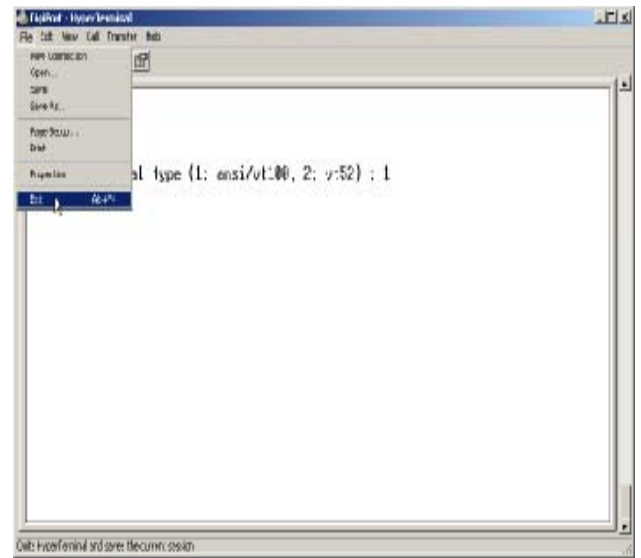

Figure 2-18
37. Exit from the HyperTerminal program by clicking on the **File** menu and selecting **Exit**. **Figure 2-18**